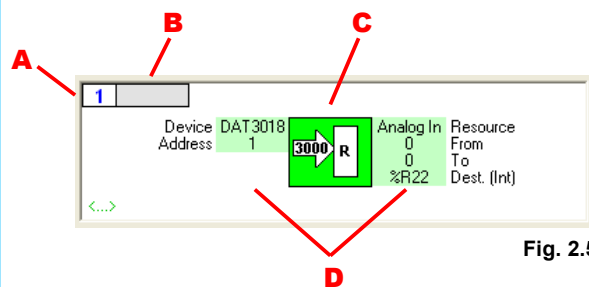

Fig. 2.5
- **Index** (Fig.2.5-A): unique number that identifies the position of the block inside the Program.
- **Label** (Fig.2.5-B): unique label that identifies the Function Block inside the Program (used for the functions of the “Flow” functional group, refer to section “Function description”).
- **Symbol** (Fig.2.5-C): icon relative to the function to be inserted.
- **Variable** (Fig.2.5-D): parameter of the Function Block.